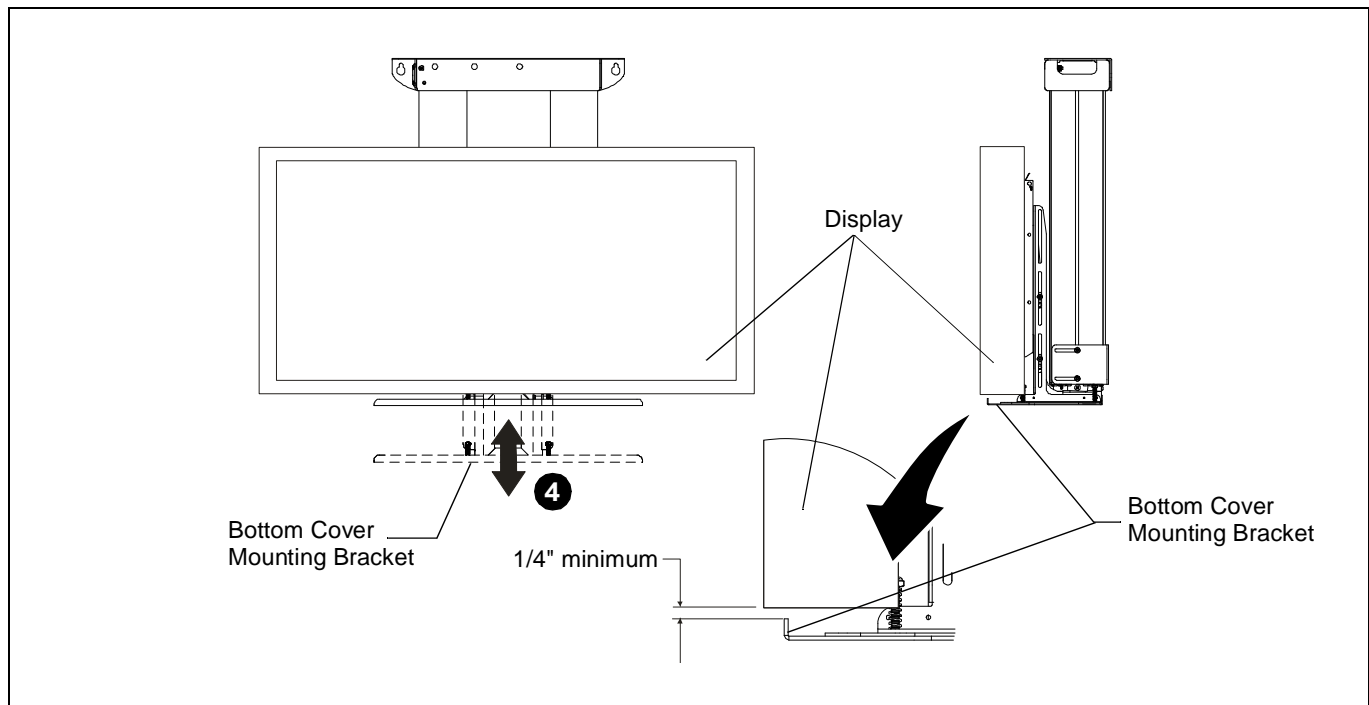

Figure 21
5. Slide bottom cover adjustment brackets upward or downward until lip on bracket is positioned 1/4" below the bottom of display. (See figure 21)